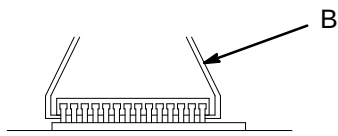
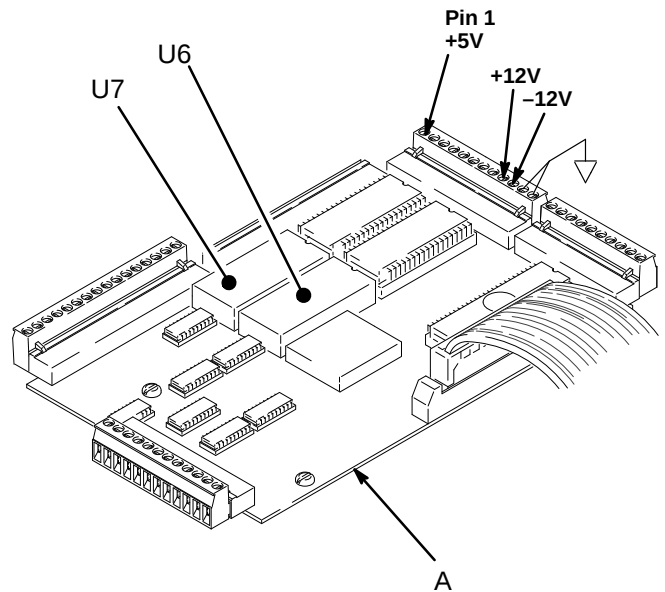

Fig. 1
Fig. 4
2. Locate the control board (A) in the control box assembly. See Fig. 4.
3. Locate the software chips U6 and U7 on the control board (A). Note the direction of the chips.
4. Use an I.C. extraction tool (B) to remove the old software chips. Pull the chips directly up. See Fig. 1.
3. Verify that the correct dc voltages are going to the control board. There should be +5, +12, and –12 Vdc. See Fig. 4, page 3 for the terminal numbers.